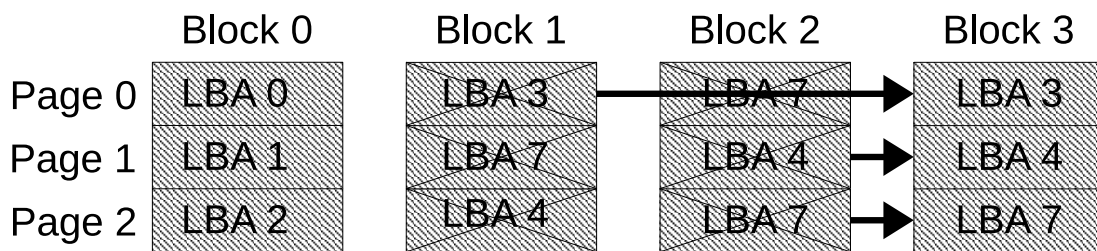

Figure 3: Copying of the still valid LBAs into a new block
- 4 However, since only whole blocks can be deleted, these pages can not be released and programmed again immediately. Now only a single free block is available, which now requires the garbage collector to run before the storage medium can accept further data. This is shown in figure 3: The valid pages of block 1 and block 2 are copied to block 3 by the garbage collector.